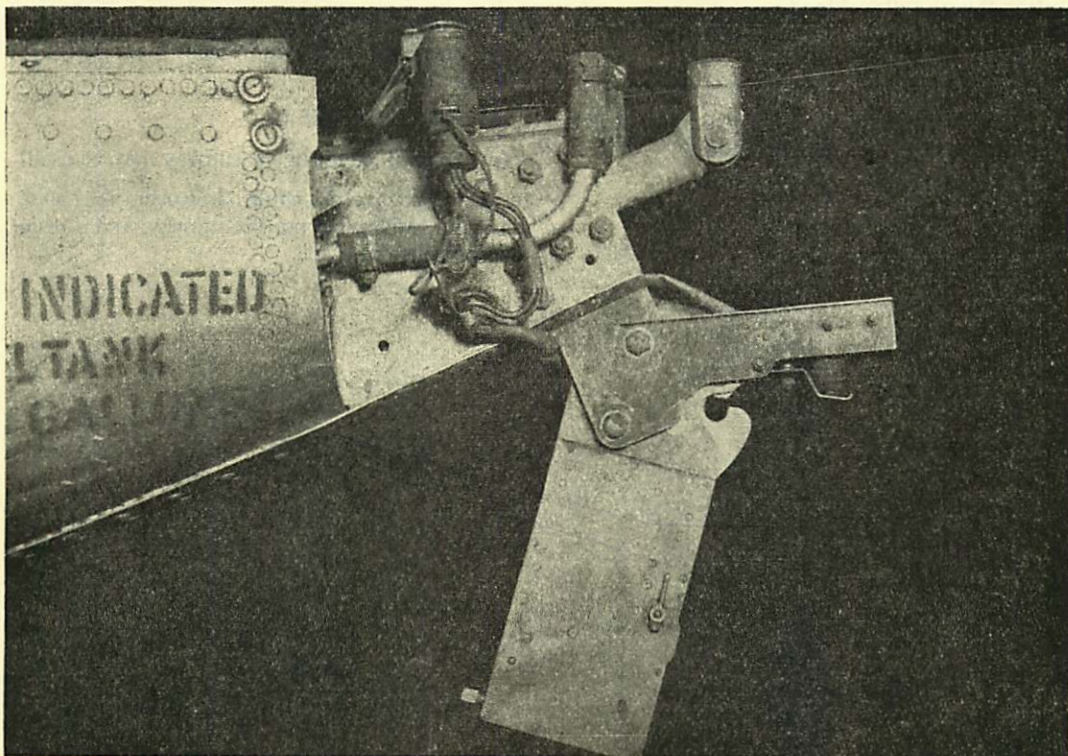

Fig. 4. Electro-Magnetic Release Unit
15. **Electro-Magnetic Release Unit.** The E.M.R.U. consists basically of a hook operated by an electro-magnetic unit (Fig. 4). It is set manually as follows :—